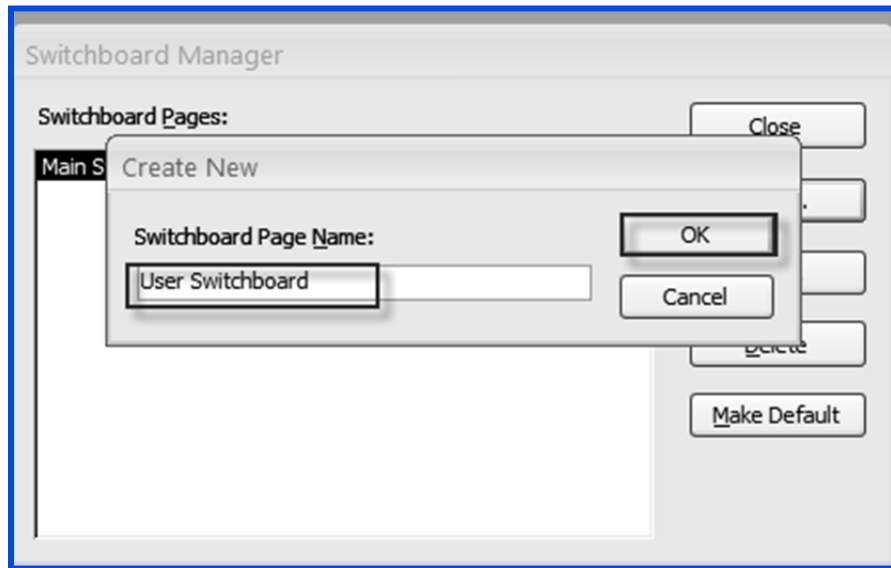

Fig. 4.3.6: Create New Dialog Box
2. In the *Create New* dialog box, in the *Switchboard Page Name* text box, enter *User Switchboard* and then click *OK* to create a *sub-switchboard* with that name, as shown in Fig. 4.3.6.